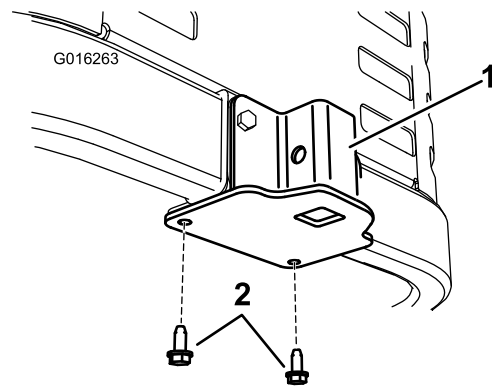

Figure 4
4. Install the new angle spacer plate as shown in Figure 4 using the fasteners removed previously.
2. Secure the support bracket to the bottom of the machine frame from below using two self tapping screws (5/16 x 3/4 inch) as shown in Figure 4.